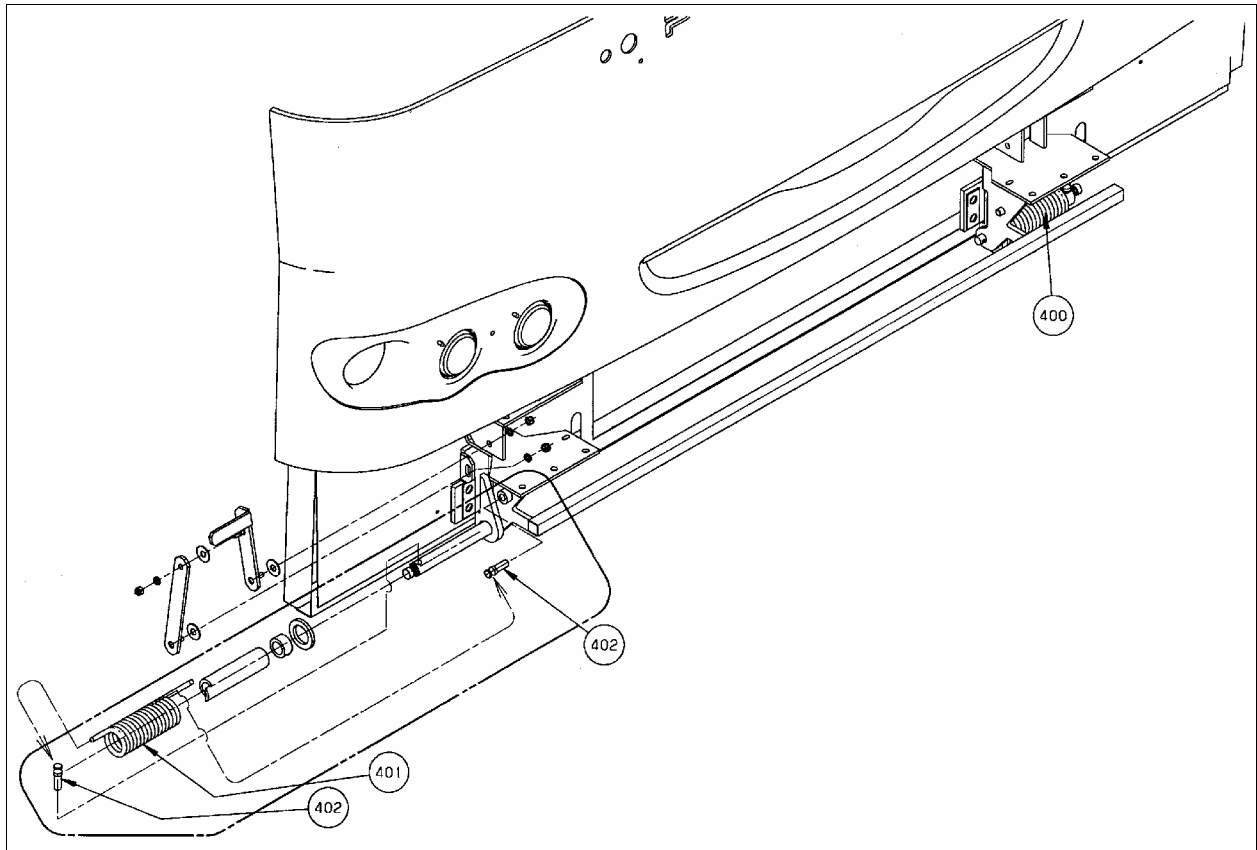

FIGURE 1
3. Remove L.H. side spring (400). Using proper tool, relieve spring tension on one locking pin (402) and remove it. Slowly release spring tension and remove the second locking pin. The spring is free (refer to figure 1).